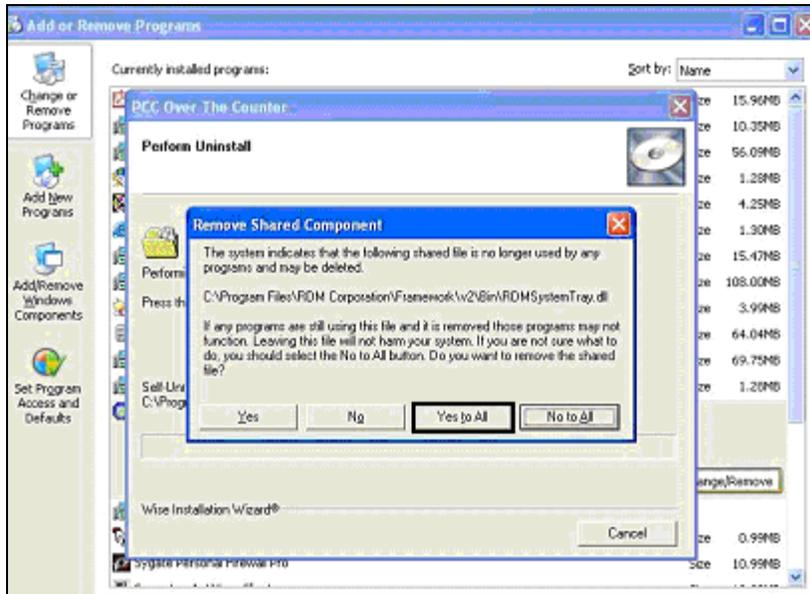

Figure 2.16
- The uninstall process begins. This may take up to 5 minutes. A prompt may appear asking if you wish to remove a shared component. The uninstall process will notify the user that the file is no longer being used by other programs and may be deleted. Click on **‘Yes to All’**. (Figure 2.16)